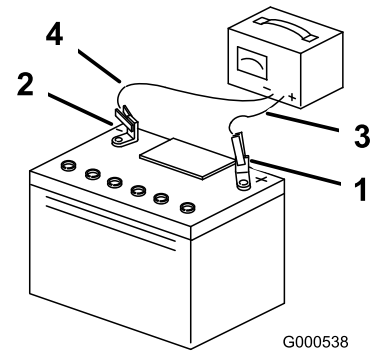

Figure 51
4. When the battery is fully charged, unplug the charger from the electrical outlet, then disconnect the charger leads from the battery posts (Figure 51).